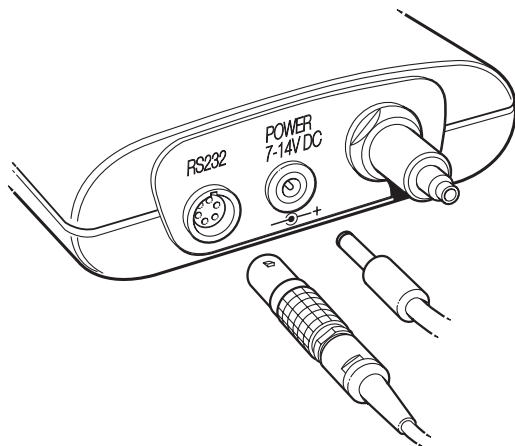

Figure 2-2 Electrical connections
2.2 Electrical connections (Figure 2-2 and 2-3)